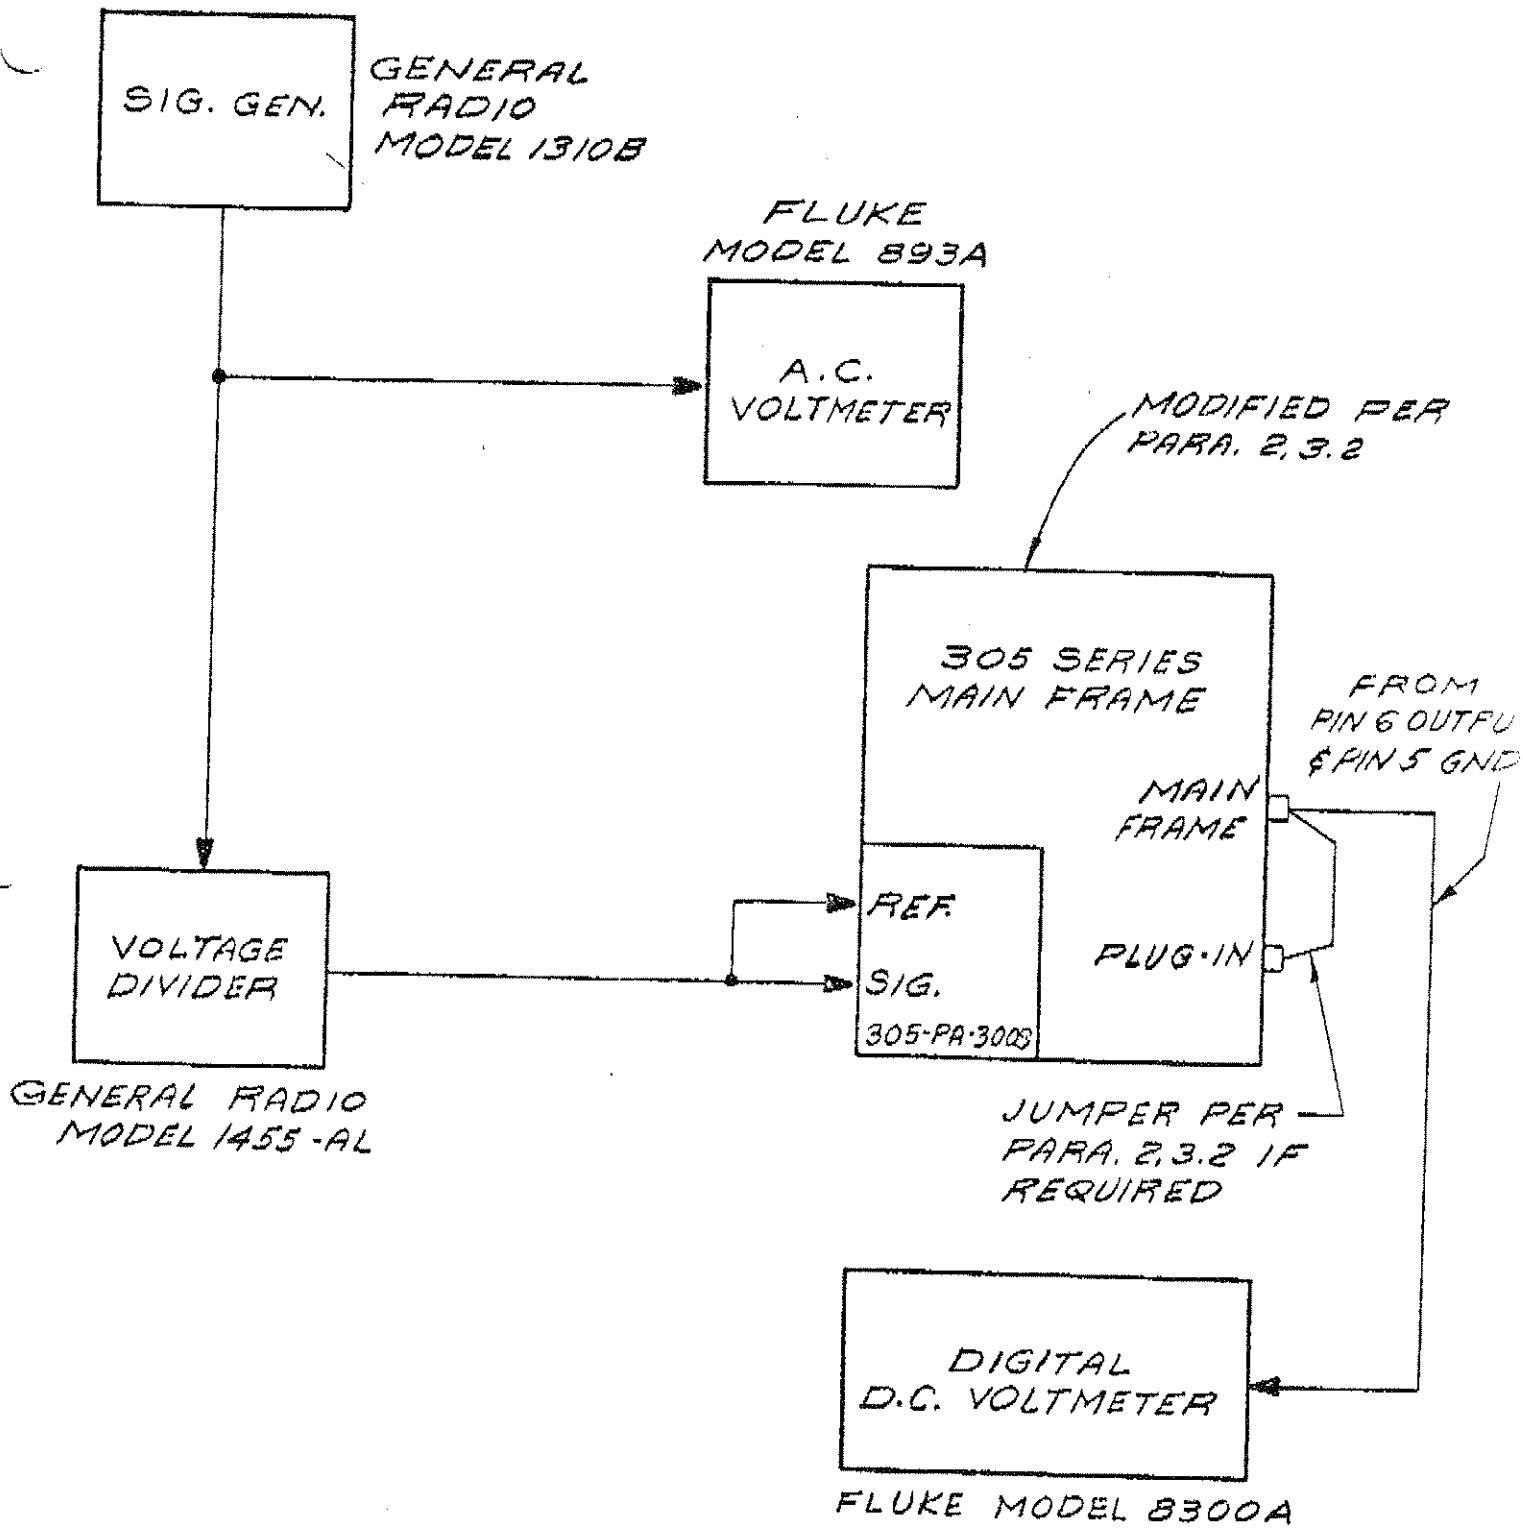

FIGURE 4-1
- 4.2.4 To measure Signal channel linearity connect the equipment as per Figure 4-1 which follows. Set the 305-PA-3009 function selector switch to the "Sig.V" position.
- 4.2.7 To measure Reference channel linearity all connections remain as in Figure 4-1. Set the 305-PA-3009 function selector switch to the "REF.V" position. Continue to maintain the 1.0 kHz signal generator output voltage at 10.0 Vrms during the balance of the linearity testing.